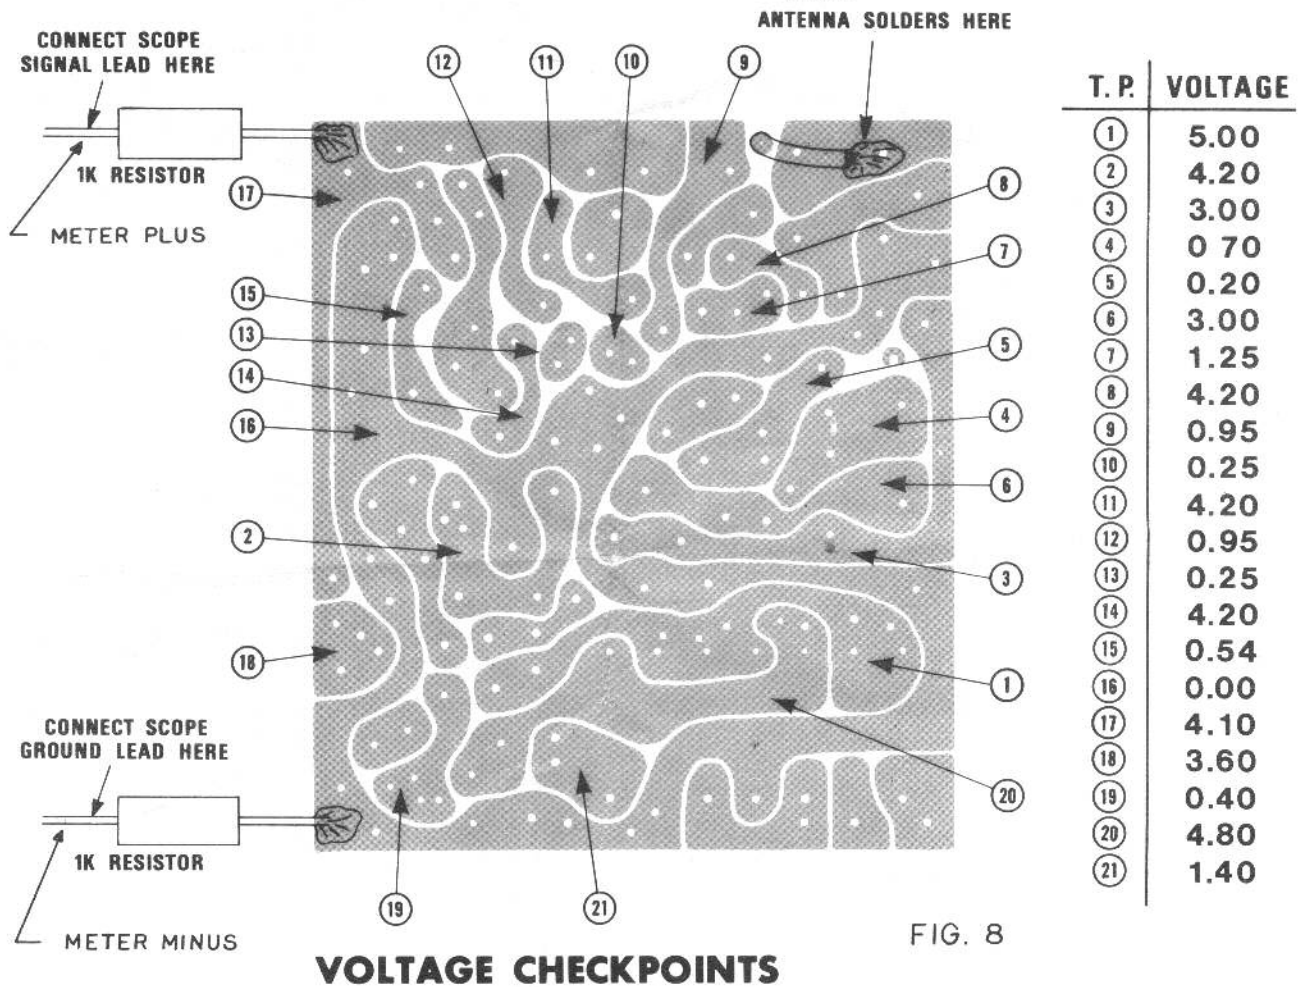

FIG. 8
4. () Flip the receiver over to the circuit side and tak-solder two 1K resistors as shown in the illustration. Fig. 8. Lay a terri-cloth or towel down on the bench in front of you, and place the receiver on it, component side up. One word of caution; NEVER use a metal bench for this procedure. Not only is there a hazard of electrical shock or circuit shorts, the massive amount of metal in the table will DE-TUNE the receiver or hamper proper tuning to an unacceptable level. You may even consider removing large metal objects from the table such as tool boxes.